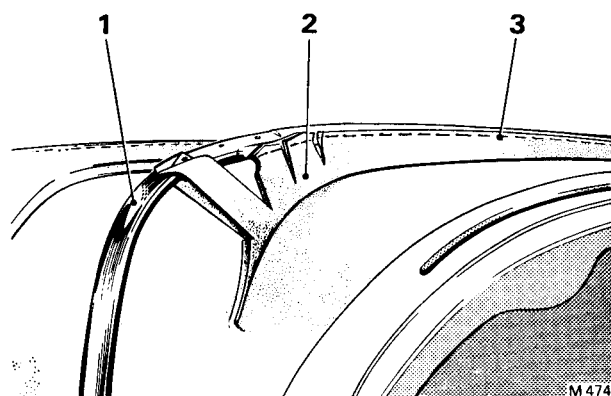

FIG. S121 METHOD OF SECURING THE HEAD LINING TO A HOOD CROSS-STICK (Convertible Cars)
16. Pull the rear of the head lining towards the front of the car to expose the line of staples (or tacks) securing the head lining to the cross-stick situated immediately forward of the rear cross-stick assembly (*see Fig. S121*); remove these staples (or tacks) and detach the head lining from the cross-stick.
3. When fitting the head lining to the cross-sticks, first fully raise the hood by hand. Attach the head lining to the hood peak and to the rear stick assembly with temporary tacks, altering the position as required until the most satisfactory position is obtained; remove the temporary tacks securing the head lining to the rear stick assembly. Secure the head lining to the cross-sticks with staples or tacks, starting at the hood peak and working rearward (see Fig. S121).